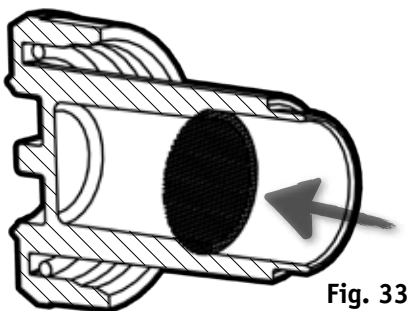

Fig. 33
- 1) Insert the FILTER MESH 22 into the end of the FILTER HOUSING 21, ensuring that it remains flat (Fig. 33)